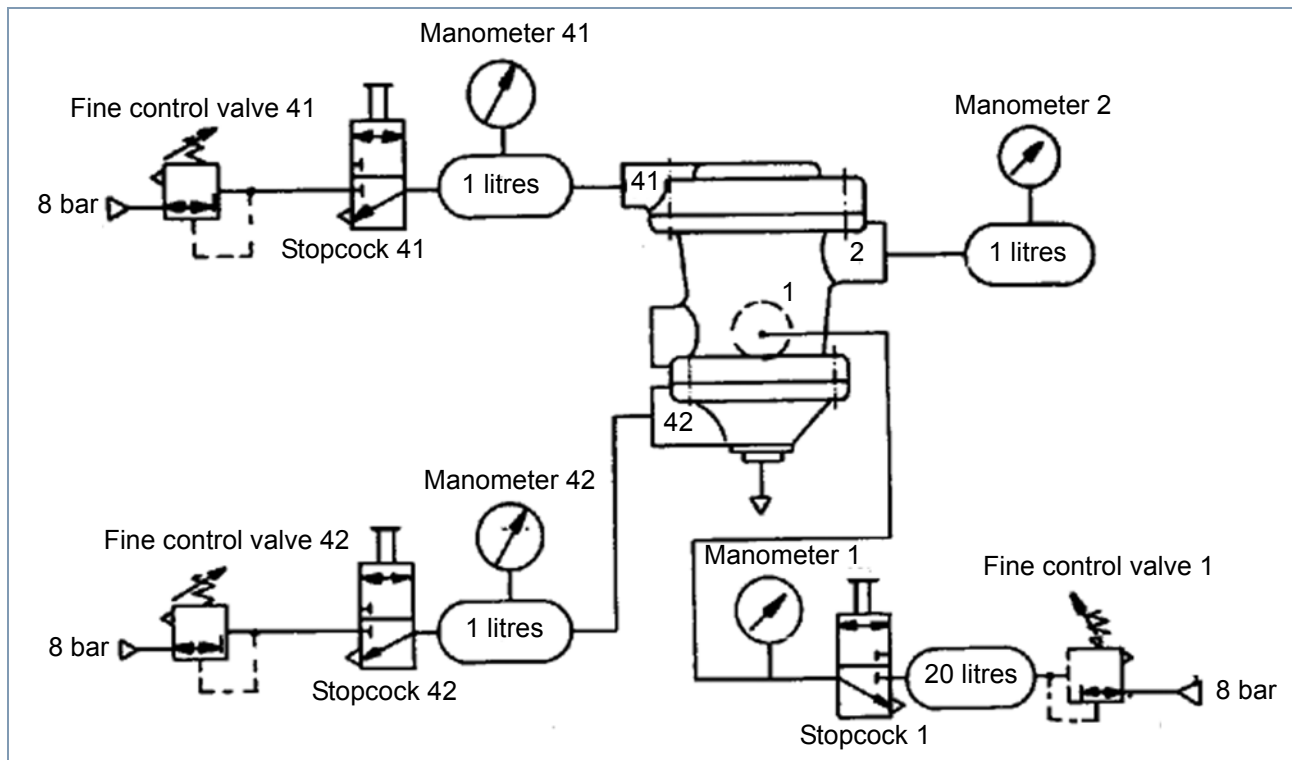

Fig. 3 Test diagram
- Test bench 435 197 000 0 or adequate testing equipment (see fig. 3)
i If you do not have test bench 435 197 000 0 you must test the device according to the following diagram (see fig. 3).